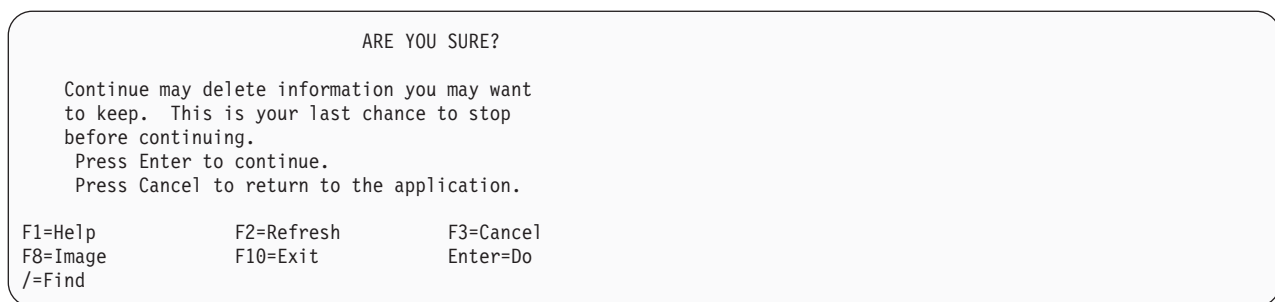

Figure 2-23. Verifying AOTM Change
4. Press **Enter**. You see Figure 2-23 on page 2-20.